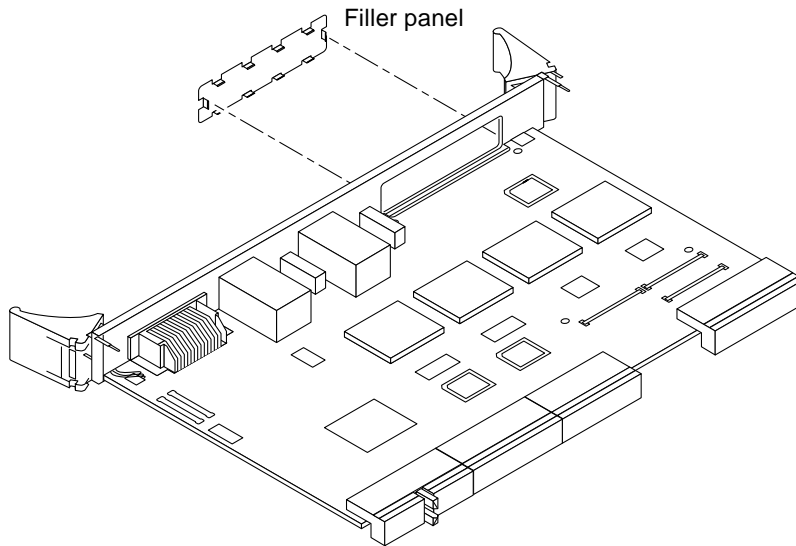

FIGURE 2-2 Removing the PMC Filler Panel
5. If the PMC has a connector for cabling, remove the front card's filler panel (FIGURE 2-2).